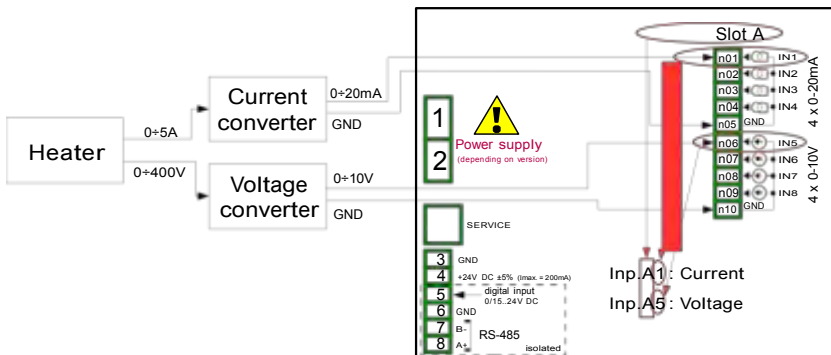

Fig. 7.57. Schematic diagram for the UI4 module
First configure the device as described below, then connect the heater to converters and then to the device (in accordance with Fig. 7.57).
- Source parameter set as Inp. A1: Current (see the connection in Fig. 7.57),
- Source parameter set as Inp. A5: Voltage (see the connection in Fig. 7.57),